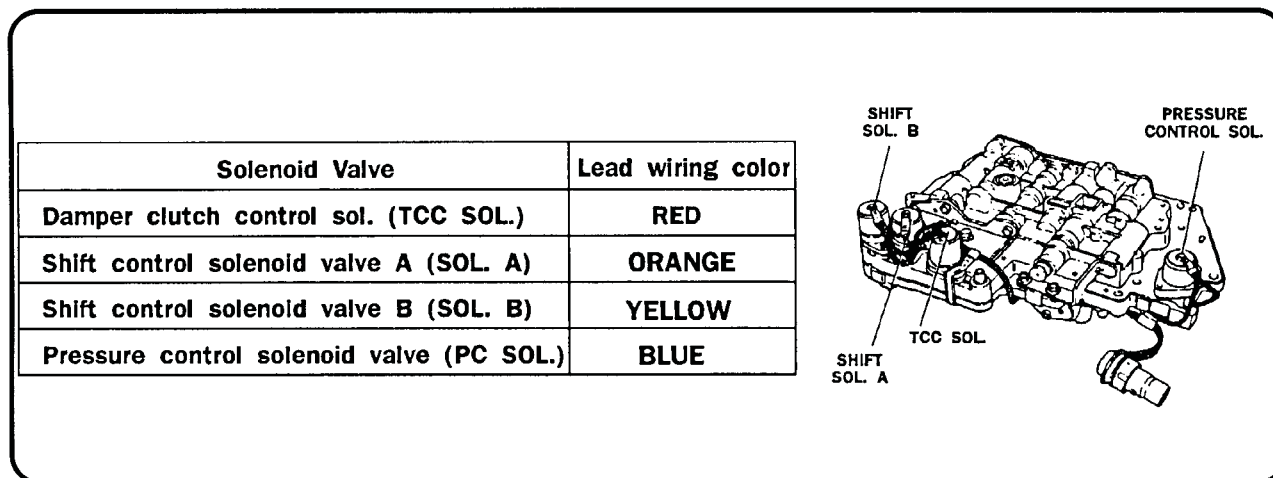

Figure 9.
**Shift Solenoid A** and **Shift Solenoid B** are mounted on the valve body. They are normally closed solenoids and hold pressure when they are off. They open to exhaust when they are energized with battery voltage. For solenoid location on the valve body see figure 9.